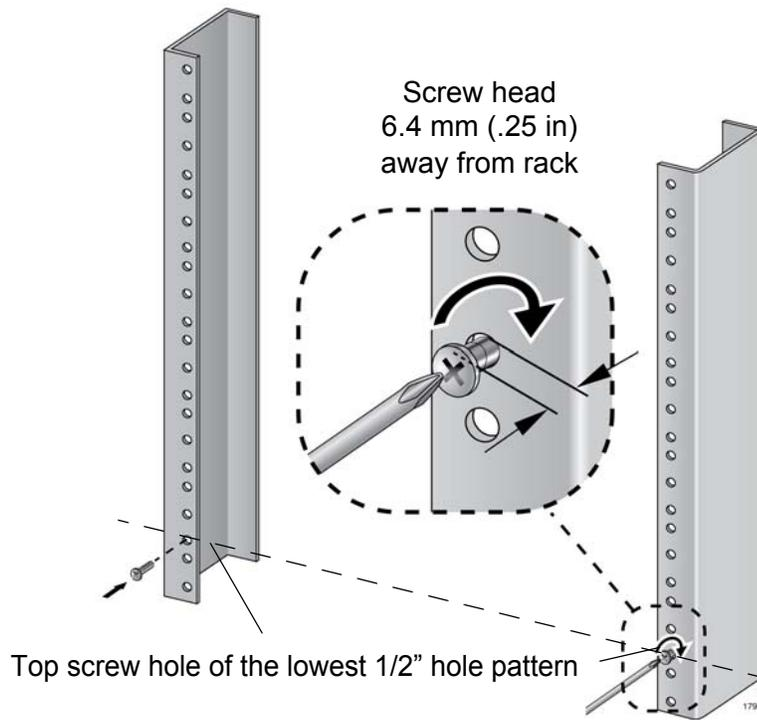

Figure 35. Rack Mounting Hole Locations
4. Install one rack mount screw in each vertical rail, at the same height in the top screw hole of the lowest 1/2" hole pattern, as shown in Figure 35 on page 81. The screws are used to support the chassis while you secure it to the rack. Do not fully tighten these two screws at this time. The screw heads should protrude from the rack approximately 6.4 mm (.25 in).